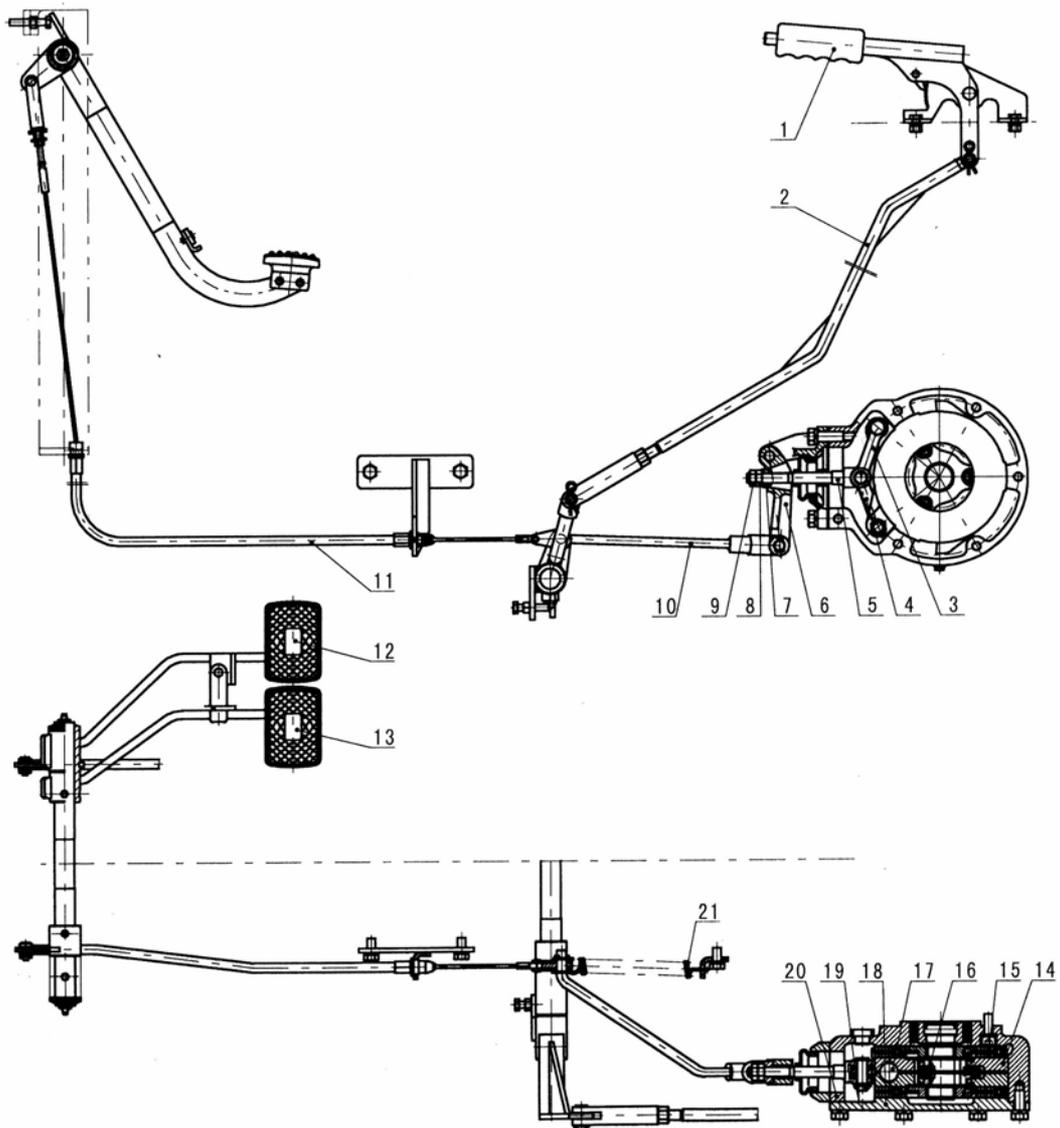

Fig. 6-12 Brake Assembly
The tractor is equipped with sealing disc brakes, they are set on the left side and the right side of the final transmission (small) gear shaft respectively, the right brake or the left brake may be applied in single side, its structure is as Fig. 6-12 with pressing plates (14) and frictional slice assembly (15) .